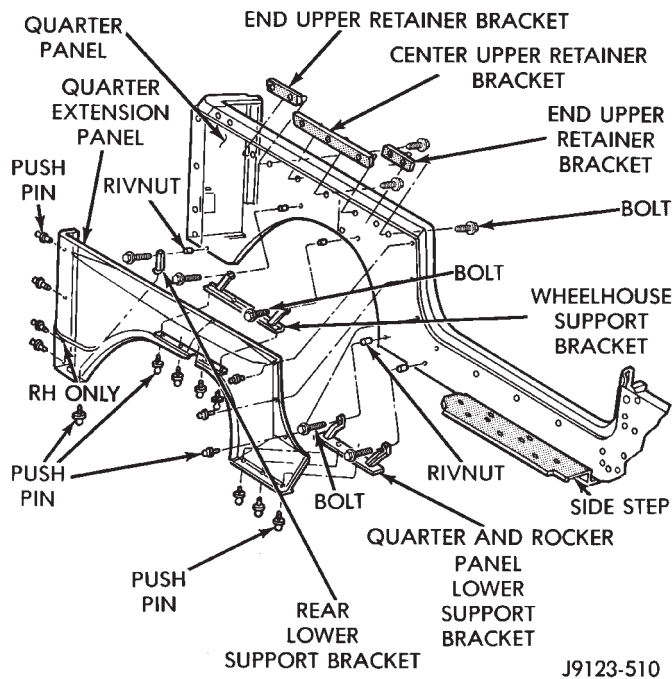

Fig. 56 Rear Quarter Extension Panel—Exploded View
(5) Remove the screws that attach the extension panel to the wheelhouse lower, rear support brackets (Fig. 56).
(3) Position the extension panel on the brackets and the quarter panel, and install the screws to attach the panel to the brackets (Fig. 56).